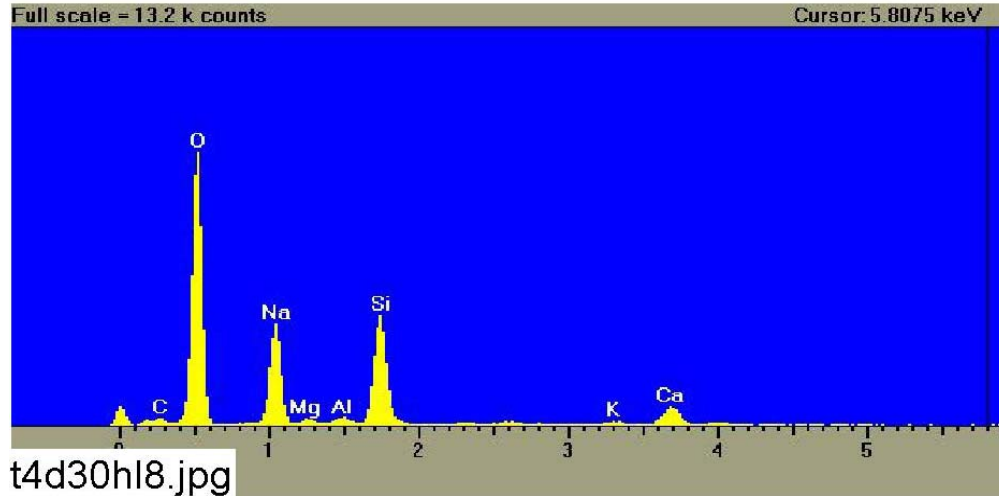

Figure C5-7: EDS counting spectrum for the spot of substance attached on fiberglass shown in Figure C5-6. (t4d30hI8.jpg)
- Figure C5-7: EDS counting spectrum for the spot of substance attached on fiberglass shown in Figure C5-6. (t4d30hI8.jpg)..... C5-8